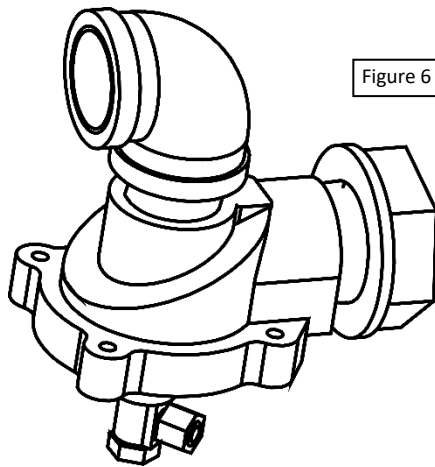

Figure 6
13. Connect the Turbo Blast Hose Assembly (730-1) to the Main Tower using the Moveable Joint (746). Take care not to lose or damage the O-Rings in this joint. Refer to Figure 6.